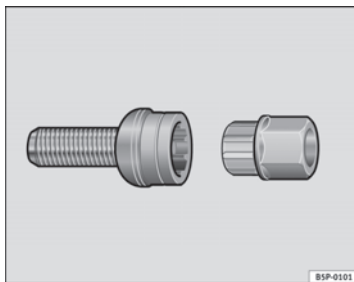

Fig. 179 Anti-theft wheel bolt
- Insert the adapter onto the wheel bolt and push it on as far as it will go ⇒ fig. 179.